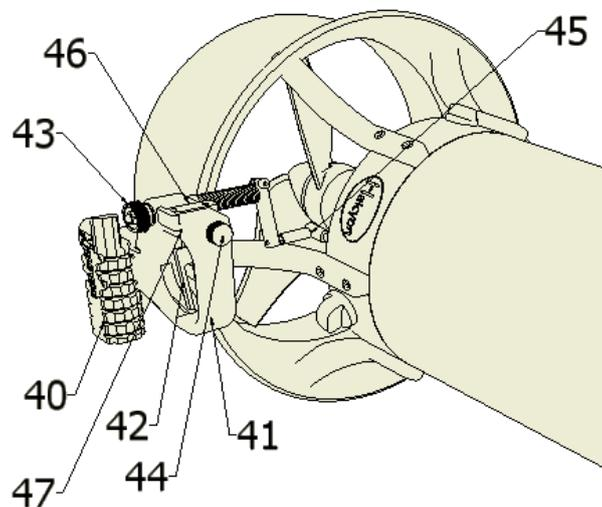
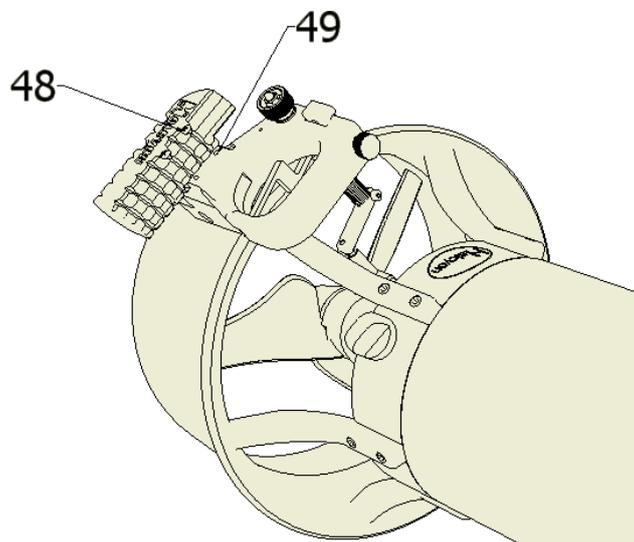

Figure 11
Figure 12
The N-Handle control device (see fig. 11) was created for better ADV manageability in certain conditions.
The knob cruise control (43)(see fig.11), must only be used under the diver’s maximum control. **The knob, trigger or ADV ignition switch must be usable at all times to avoid any type of collision or driver dragging risks in hazardous areas.**
- Grasp the device (40) (see fig.11).
- Press the trigger (42) the scooter will run.
To adjust the grasp position (40) (see fig. 11), unscrew the 4 screws (48) (see fig. 12) remove the grasp (40) and reposition it screwing the screws into the selected holes (49). There are three possible positions.
The purpose of the accessory support (46)(see fig 11), is to be able to attach the specific accessories that may be useful during dives on the handle. For this reason, SUEX has created some supports to be used with normal wrist or console tools.
Loosen the lock screw (44) (see fig.11) and insert the support.